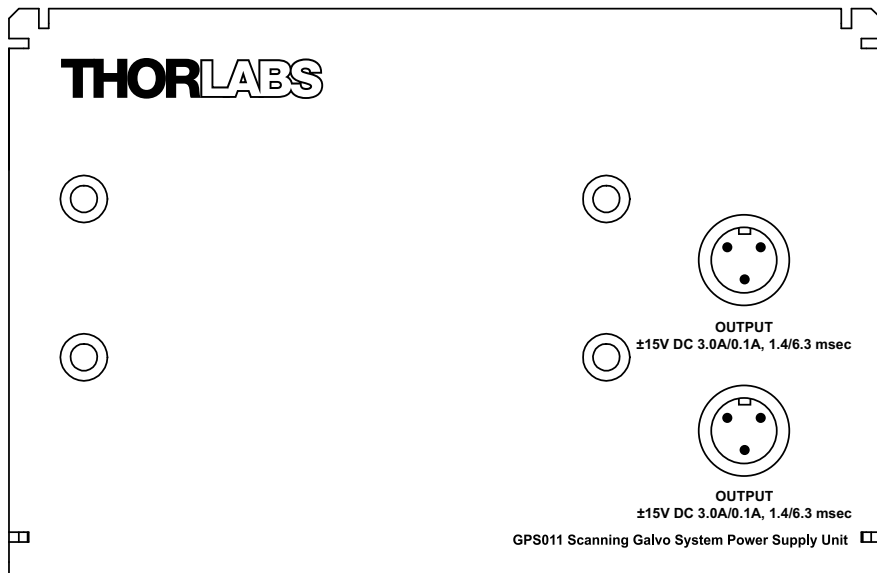

Fig. 3.12 Connecting the Power Cable to the PSU
- 2) The circular 3-pin connector on the power output cable and the OUTPUT socket on the PSU are fitted with alignment key ways to ensure connection in the correct orientation. Check for correct orientation of the alignment key ways, then make connections as shown in Fig. 3.12.